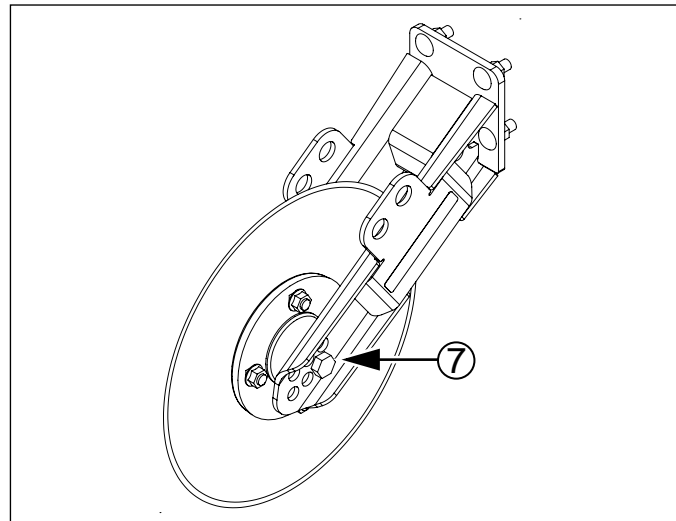
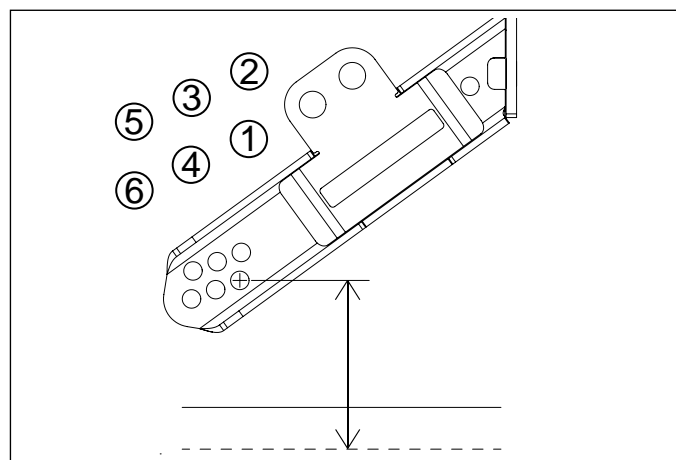

Figure 47
Figure 48
#### Refer to Figure 47 and Figure 48
4. Remove the  $\frac{5}{8}$ -11  $\times$  4 inch bolt, lock washer and nut (7 in Figure 47).